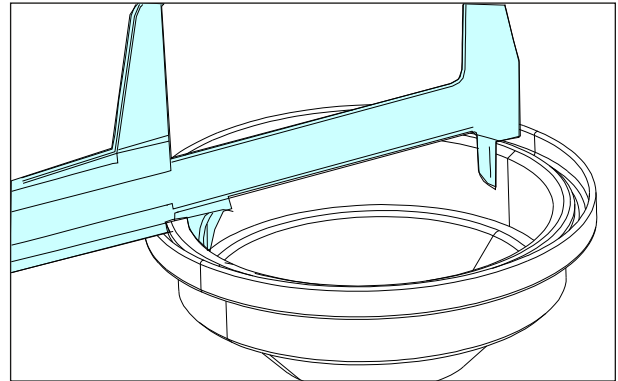

Fig. 5.47
- Measure brake drum inner diameter. (Fig. 5.47)